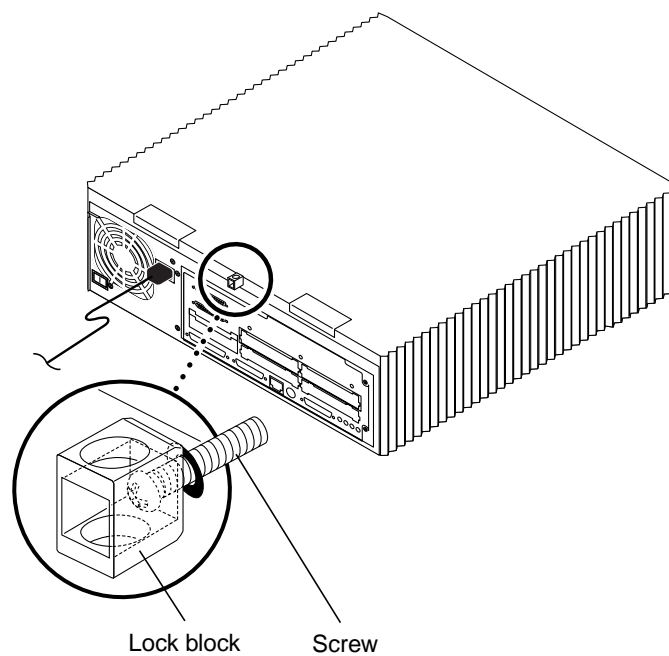

Figure 2-2 Location of Lock Block
1. **Loosen the screw securing the lock block (if installed) to the cover and back panel. Remove the lock block (Figure 2-2).**